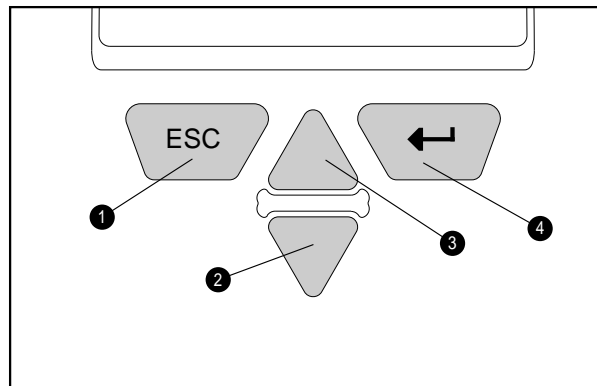

Figure 6-2. Integrated Management Display buttons
To navigate through the menus, use the four buttons shown in Figure 6-2. The Up and Down arrow keys (❷ and ❸) allow you to move through the menu screens and choose menu items. The right button (❹) acts as an Enter key and allows you to travel down through the menus. The left button (❶) acts as an Escape key and allows you to travel back up the menu.